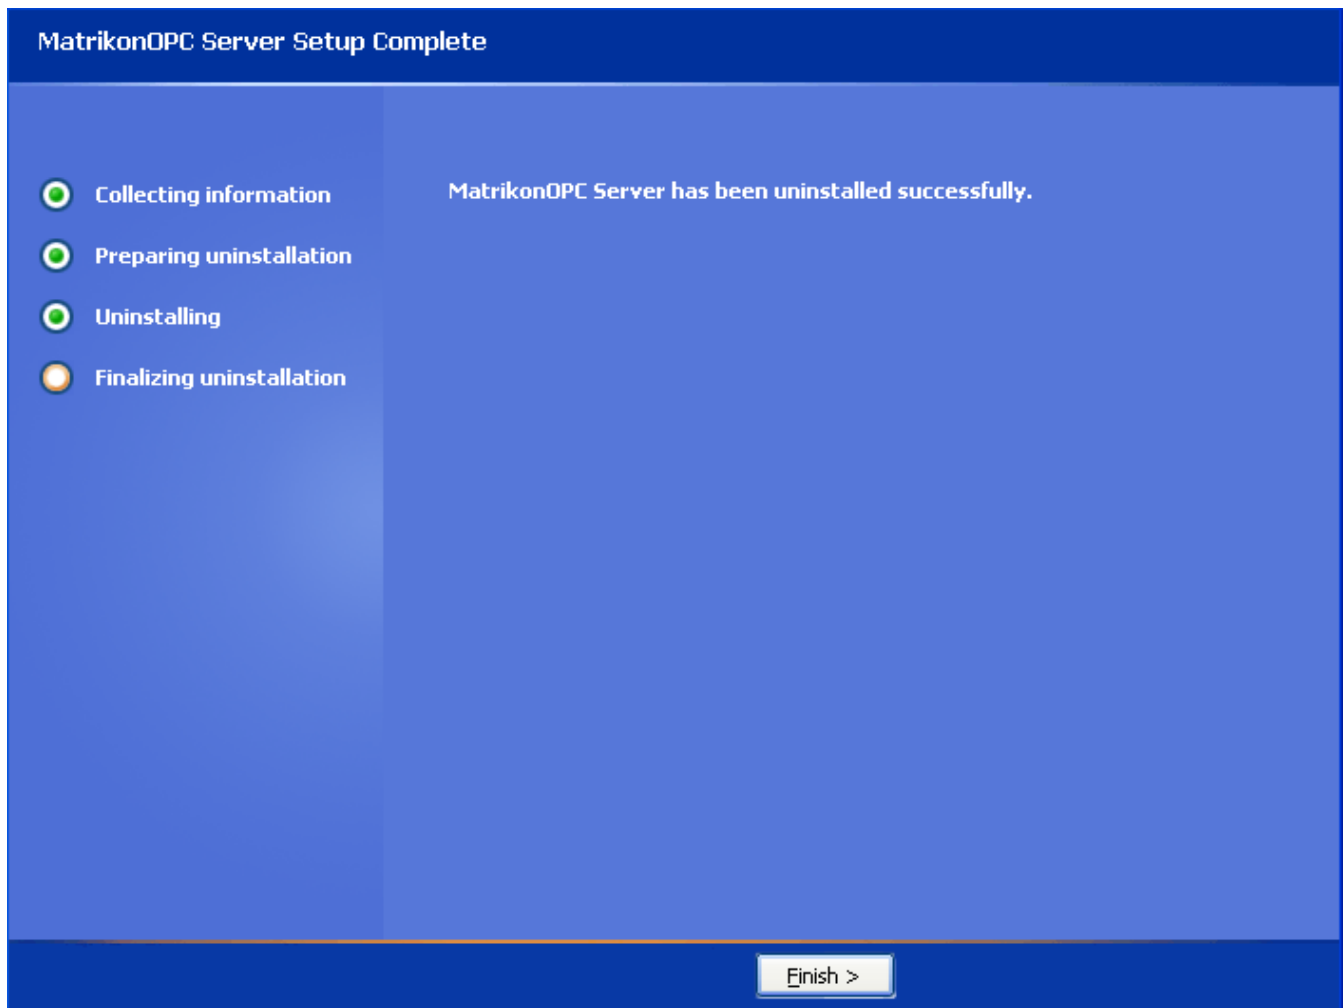

Figure 81 - MatrikonOPC Server for IEC 61850/61400-25 Setup Complete Screen
11. When the un-install has finished, the **MatrikonOPC Server for IEC 61850/61400-25 Setup Complete** screen (Figure 81) appears stating that MatrikonOPC Server for IEC 61850/61400-25 was successfully un-installed.